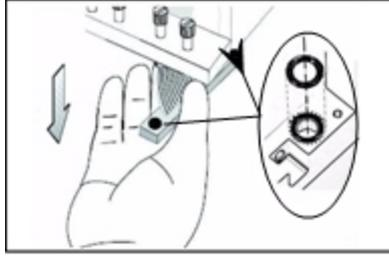

Figure 6-74 O-ring seals on the print head
14. Inspect the replacement head, and make sure that the O-ring seals are in place (see Figure 6-74 above).